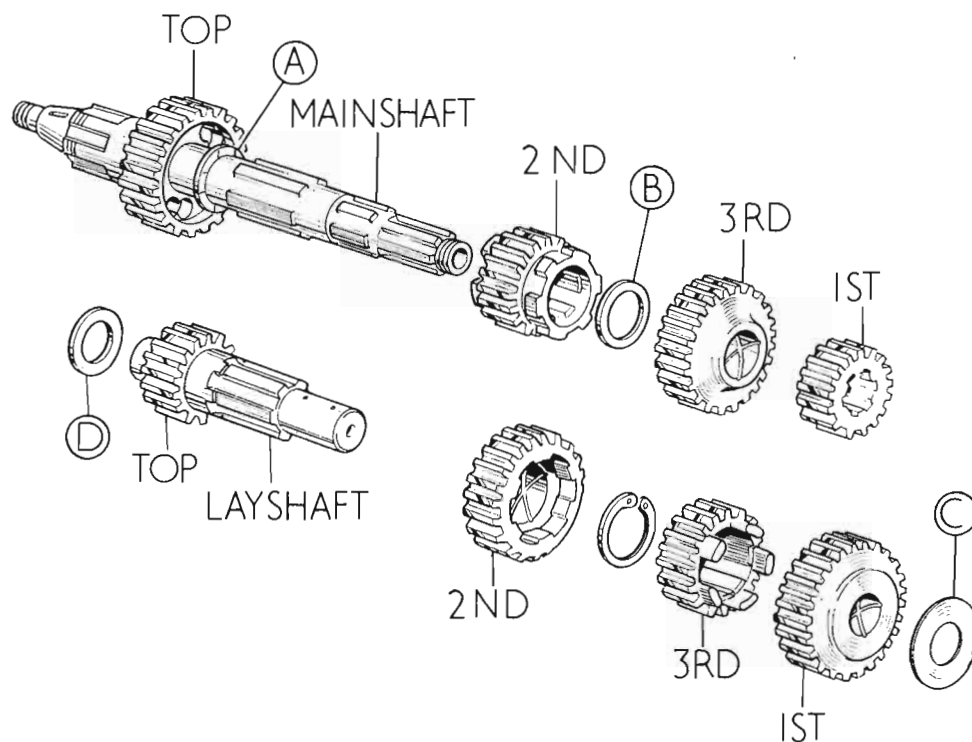

FIG. B.35. Gear cluster exploded.
Holding the cover face down, place the layshaft low gear with its shim (C) Fig. B.35, and sliding gear (third) in position on the cover. Fit its selector fork, the roller being located in the lower cam plate track.
A thrust washer (D) is fitted to the drive-side end of the layshaft when there should be just perceptible end float. The mainshaft, being locked to the inner cover, does not need checking for end float but excessive movement between the gears and the ends of the splines must be corrected by fitting the appropriate spacers. See Fig. B.35 for position of each spacer, the thicknesses and part numbers of which are as follows:—